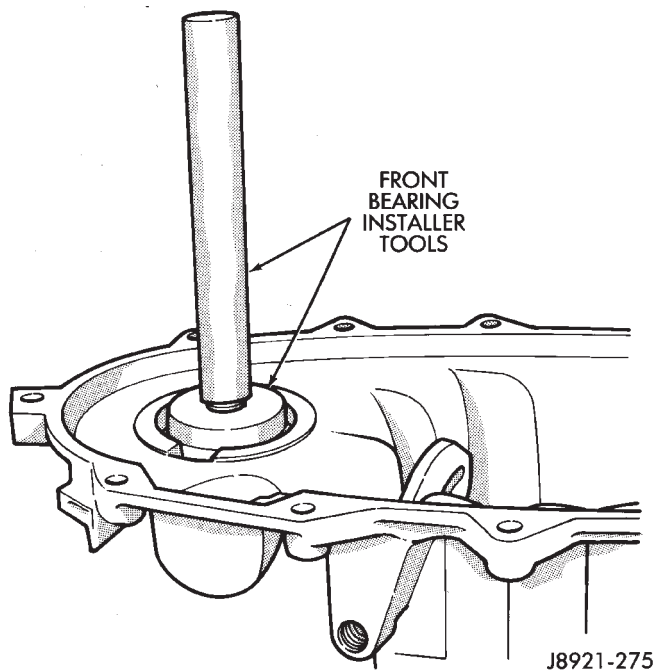

Fig. 38 Replacing Output Shaft Front Bearing
(3) Remove old bearing and install new bearing with driver handle and installer tool (Fig. 38).